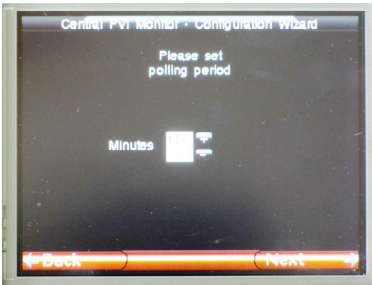

Figure 14-17: Polling Timeout
- The following screen (Figure 14-17), allows setting the period of “polling”, such as the interval of time between two savings of the statistic data in SD card.